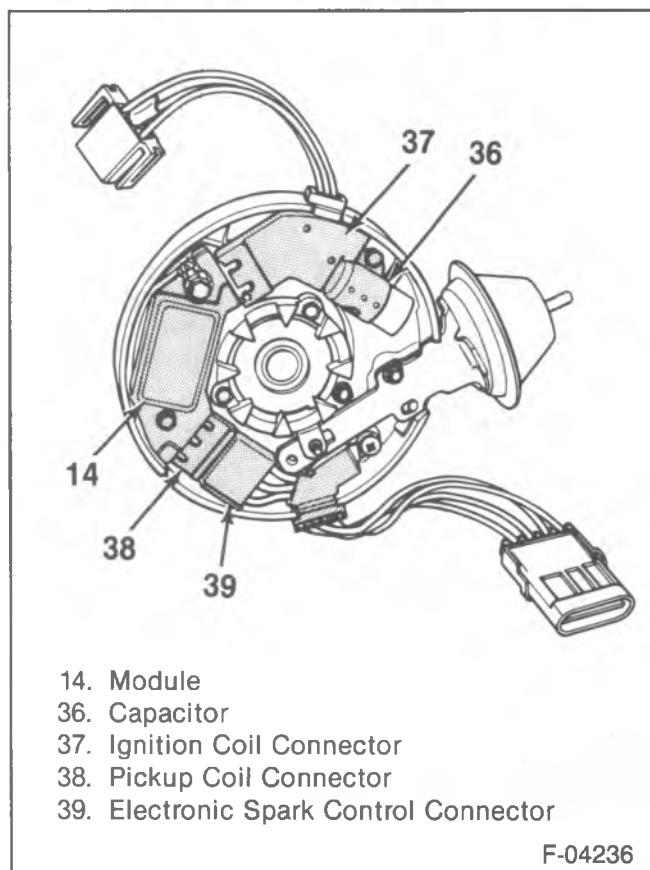

Figure 48—Module and Connectors
16. Four-wire connector from the pickup coil connector on distributors with ESC (figure 48).
10. Wiring connectors to the module (figure 48).